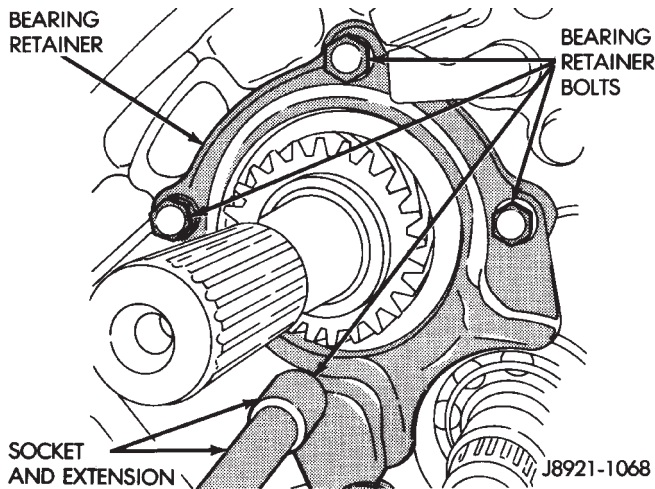

Fig. 38 Removing Output Shaft Rear Bearing Retainer Bolts
- (19) Remove bolts attaching output shaft rear bearing retainer to intermediate plate (Fig. 38).